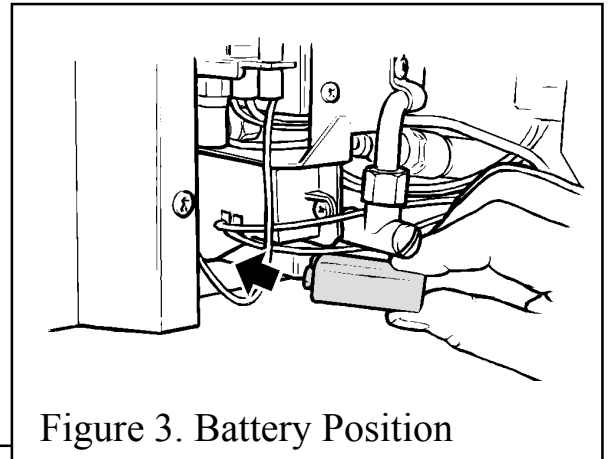

Figure 3. Battery Position
- Fit the battery to the ignition block located below the burner tray at the left side (see figure 3). The positive terminal (+) is to the right as you insert.